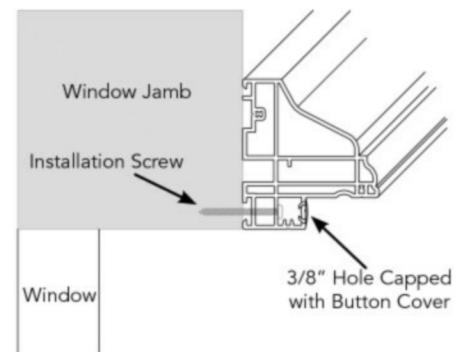

Fig. 6.2
- Once all screws have been installed and panels checked for level, cap all holes with the provided button plugs. (See Fig. 6.2)